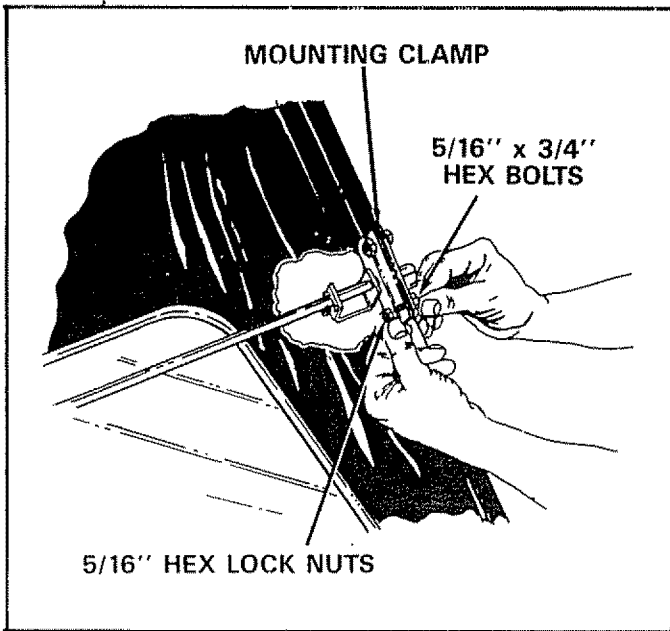

FIGURE 22
- Assemble the two remaining hopper mounting clamps to the outside of bag frame with 5/16" x 3/4" hex bolts and 5/16" hex lock nuts. See figure 22. Tighten securely.